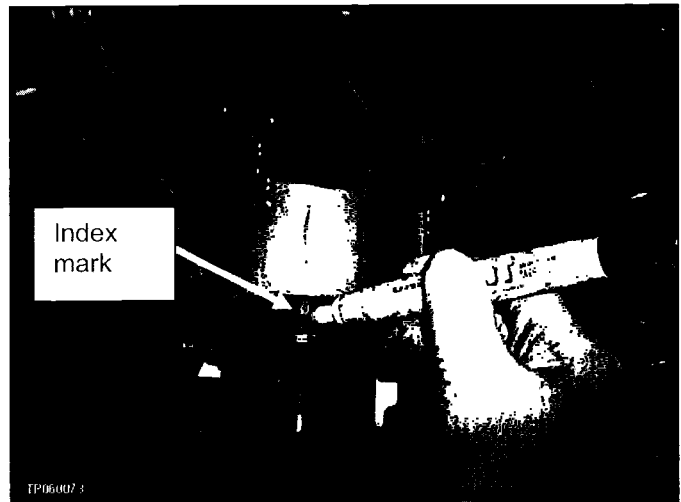

Figure 22
23. Place an index mark across the bushing and cross bar for proper re-assembly (see Figure 22).